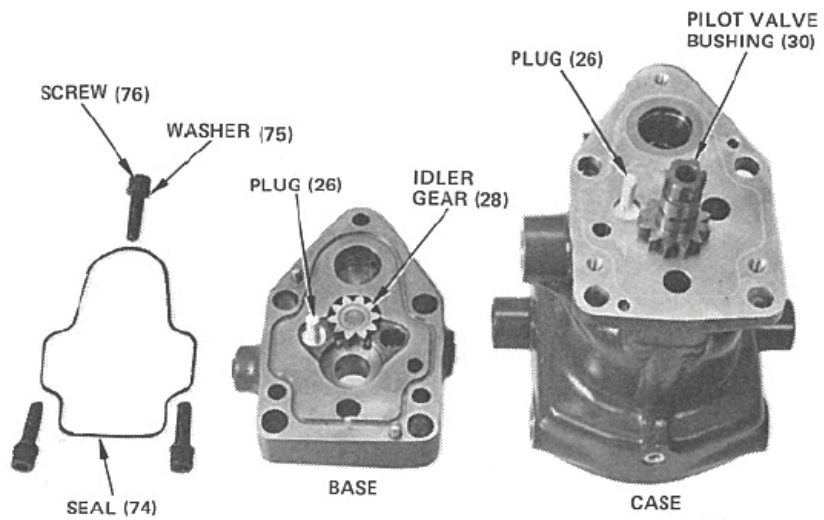

Figure 4-14. Base to Case Assembly
5. Assemble base to case with parts as shown in Figure 4-14. Insert pilot valve bushing in the case and idler gear in the base. Place oil seal ring, flat side down, in groove provided in the base. Secure base to case with three screws.